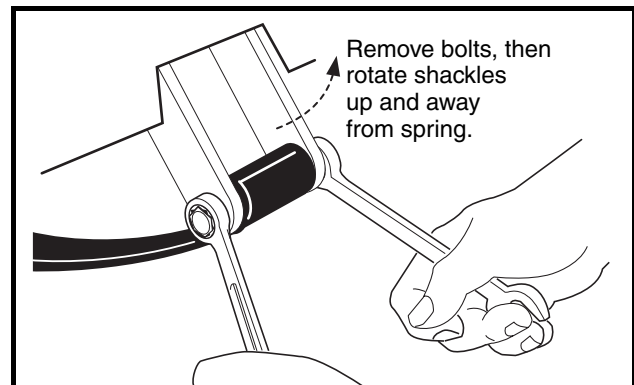

Figure 16-9 Shackles
8. With a floor jack supporting the transaxle, remove lower spring shackle nuts and bolts. Position shackles so they are clear of springs (**Figure 16-9, Page 16-5**).